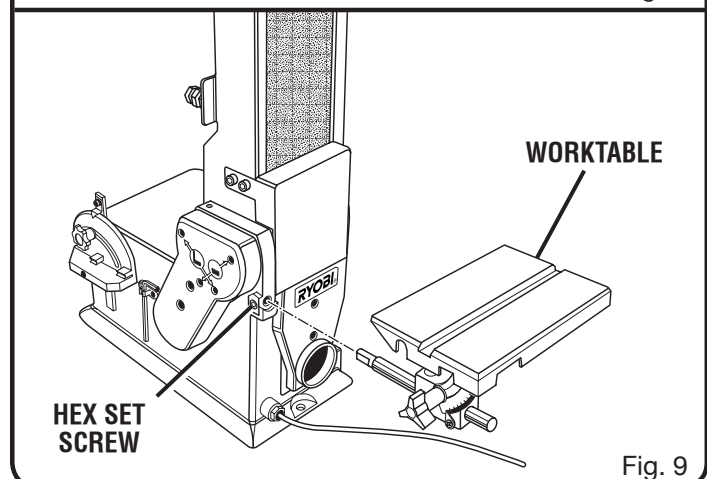

Fig. 9
See Figure 9.
- Insert the index pin into the hole as shown in figure 9.